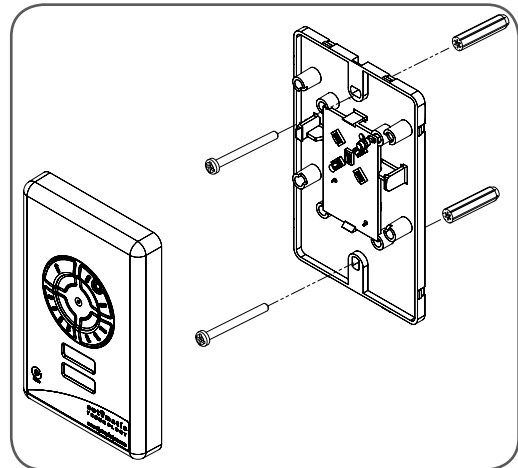

fig 46
- Affix the baseplate in a convenient wall location that is out of reach of children and convenient to the customer (**Fig 46**). Make sure the door is visible from this location.